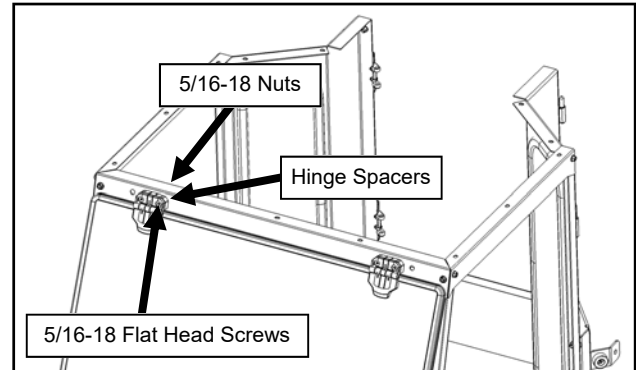

Fig. 11.1 (Attach Windshield)
- 11.1** With assistance, set the windshield up to the A-pillars and secure it to the roof using the hinge spacers and hardware. See Fig. 11.1. Leave hardware loose.